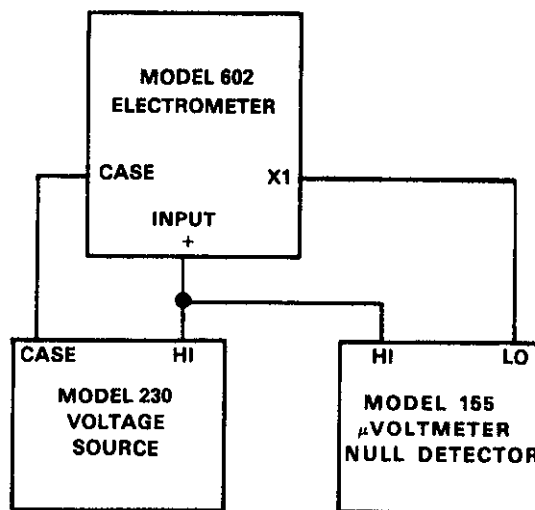

Figure 4-2. Model 602 Unity-Gain Test Set-Up
- Zero check the Model 602 and set the instrument to the 10V range. Set up the circuit shown in Figure 4-2.